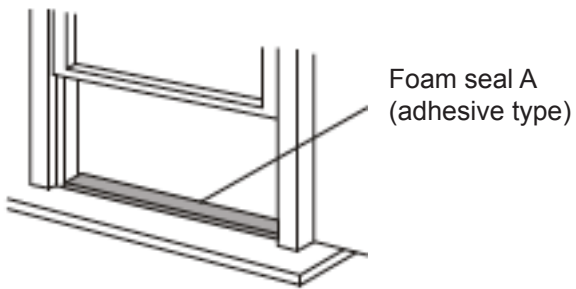

Fig. 8
1. Cut the foam seal(adhesive type) to the proper length and attach it to the window stool. Fig.8